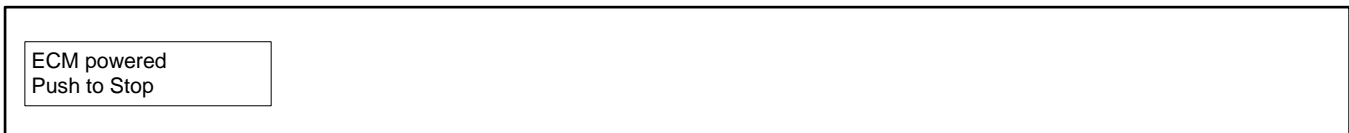

Figure 21 ECM Power Down Display
2. After several seconds, the display will change to provide the option to power down the controller. See Figure 21.